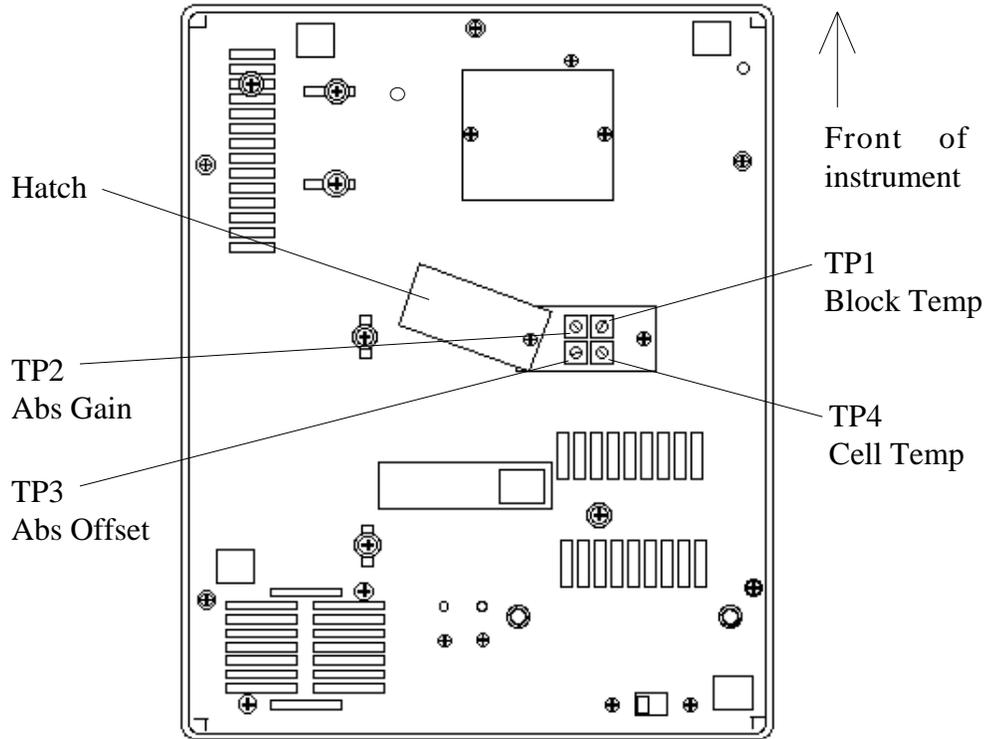

Figure 19. Trimpot Locations-bottom view
9. Read the 1:1 concentration. It should agree within  $\pm 2\%$  of the reference. If necessary, carefully adjust trimpot TP3 to achieve this agreement. Read the section "Hardware Calibration" before making any adjustments. Re-blank and reconfirm the values. Refer to Figures 19 and 20 for trimpot locations.
The object of this procedure is to adjust the trimpots in series with the temperature feedback circuits to obtain an equilibrated temperature of 37°C. Refer to Figures 19 and 20 for the location of the trimpots. Depending on the particular instrument model, the trimpots may be mounted either on the solder side of the main PCB, accessible through the hatch shown in Figure 19, or on the component side, accessible only by opening the instrument, or a combination of both. The positions and designations of the trimpots shown in the two illustrations are the same for all models. The only difference is the side of the main PCB to which the trimpots are mounted.
4. Refer to Figures 19 and 20. Adjust the trimpot(s) by a small amount. Turn it clockwise to lower the temperature; counterclockwise to raise the temperature. TP4 adjusts the cell temperature; TP1 adjusts the incubation block temperature.